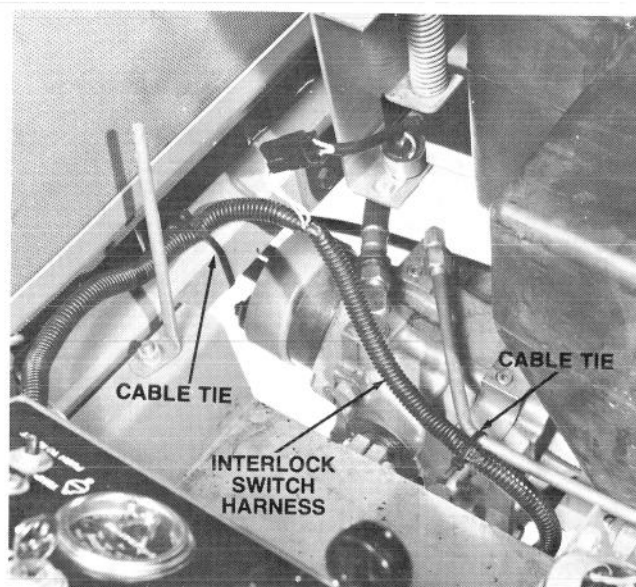

Figure 13
5. Route the interlock switch wire harness as shown in Fig. 13 and connect the harness to all three (3) switches. The neutral switch must be wired using the normally open and common terminals.
6. Use the two (2) plastic tie straps and the wire clip to secure the harness to the frame (Fig. 13 & 14).